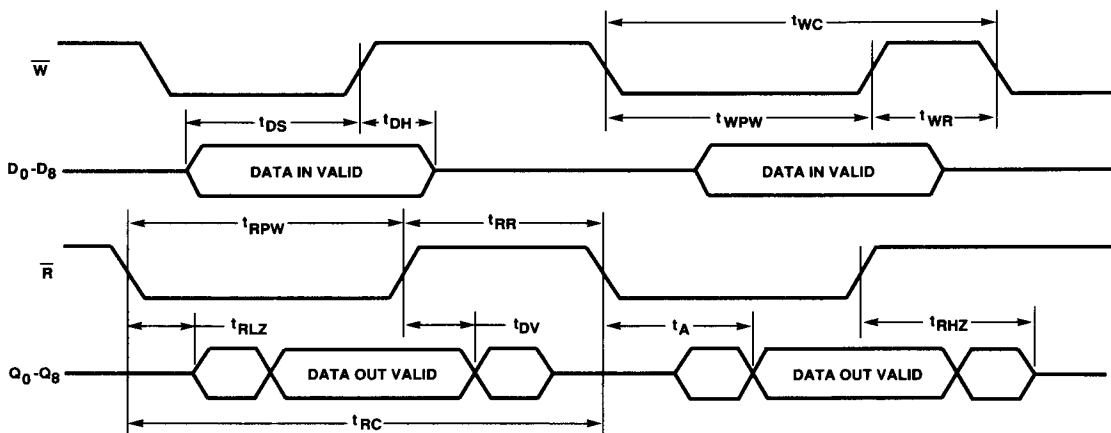

Figure 3. Asynchronous Write and Read Timing
The HIGH state of the Full Flag (\overline{FF}) indicates that the FIFO is capable of accepting data. The falling edge of Write (W) initiates a write cycle. (See Figure 3.) Data appearing at inputs D0-D8 t_{DS} prior to and t_{DH} after the rising edge of W will be stored sequentially in the FIFO.
The HIGH state of the Empty Flag (\overline{EF}) indicates that the FIFO is ready to output data. The falling edge of Read (R) initiates a read cycle. (See Figure 3.) Valid data appears on the outputs Q0-Q8 t_{dv} after the falling edge of R, and remains until t_{ov} after the rising edge of R. Q0-Q8 return to a high-impedance state when a valid read is not in progress.